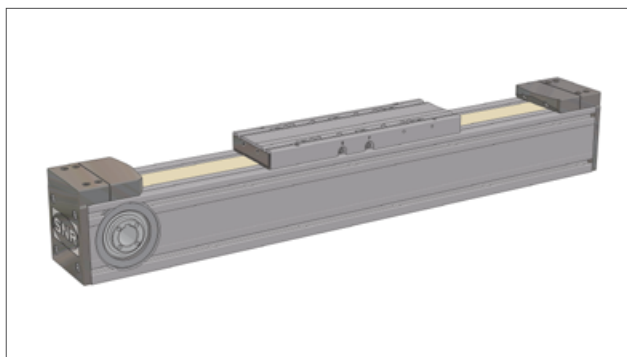

Figure 5.1 — AXC with toothed belt drive
- 3 drive versions – toothed belt drive, screw drive or toothed belt / Ω - drive (Figures 5.1 up to 5.3)